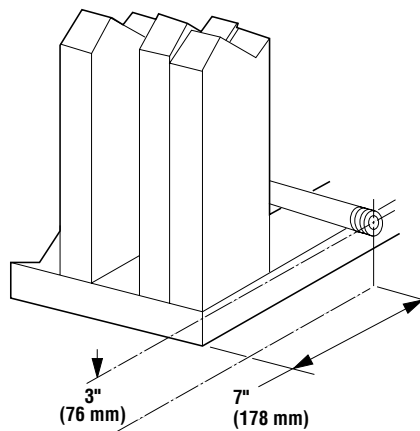

Figure 7
Step 2. Route a 1/2" (13 mm) gas line along the left or right side framing (Figure 7).